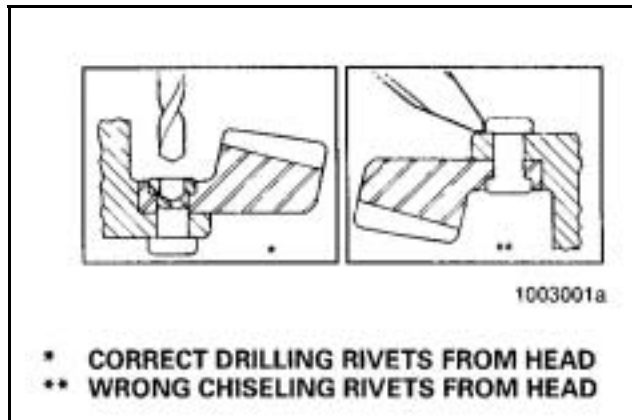

Figure 20
Do not remove the rivets or rivet heads with a chisel and hammer. Using a flat edge tool can cause damage to the flange case. Refer to Figure 20.
- b. Drill each rivet head on the ring gear side of the assembly to a depth equal to the thickness of one rivet head. Use a drill bit that is 1/32 of an inch smaller than the body diameter of the rivets. **Figure 20.**